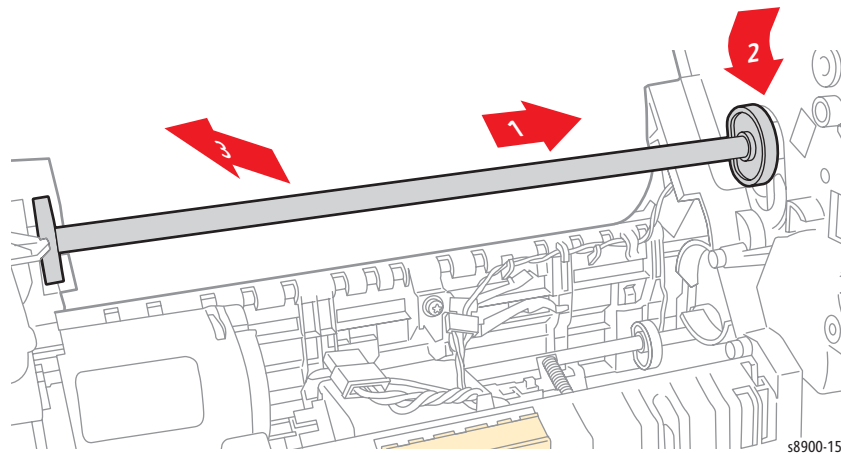

**Figure 8 - Ground Clip and Pivot Shaft**
- Check that the right end of the Pivot Plate Shaft is in contact with the Ground Clip (as shown in Figure 8 - Ground Clip and Pivot Shaft) following installation of the Drum Cooling Fan.